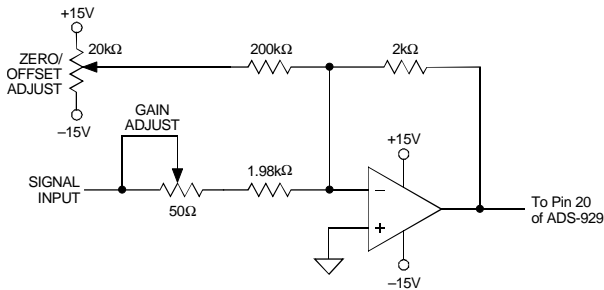

Figure 2. ADS-929 Calibration Circuit
Bypass all power supplies, as well as the REFERENCE OUTPUT (pin 21), to ground with 4.7µF tantalum capacitors in parallel with 0.1µF ceramic capacitors. Locate the bypass capacitors as close to the unit as possible. If the user-installed offset and gain adjusting circuit shown in Figure 2 is used, also locate it as close to the ADS-929 as possible.
2. The ADS-929 achieves its specified accuracies without the need for external calibration. If required, the device's small initial offset and gain errors can be reduced to zero using the input circuit of Figure 2. When using this circuit, or any similar offset and gain-calibration hardware, make adjustments following warmup. To avoid interaction, always adjust offset before gain.
(Refer to Figures 2 and 3)
Any offset and/or gain calibration procedures should not be implemented until devices are fully warmed up. To avoid interaction, offset must be adjusted before gain. The ranges of adjustment for the circuit of Figure 2 are guaranteed to compensate for the ADS-929's initial accuracy errors and may not be able to compensate for additional system errors.
All fixed resistors in Figure 2 should be metal-film types, and multturn potentiometers should have TCR's of 100ppm/°C or less to minimize drift with temperature.